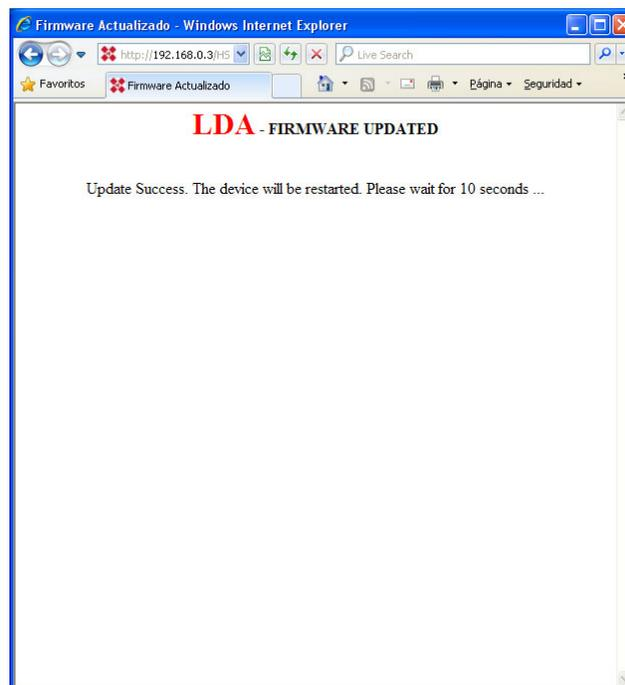

Figure 10: Firmware loading
| Figure 10: Firmware loading..... | 9 |
3. next, the confirmation screen shown in figure 10 will be displayed, and the device will restart automatically;